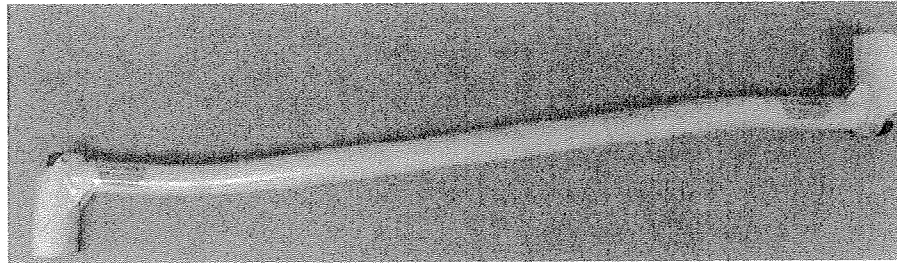

Figure 8: Orientation of Extension Arm
- Orientate the extension arm into the position seen in Figure 8 before beginning any work. The precaution stickers and text should be right side up as shown in Figure 8.